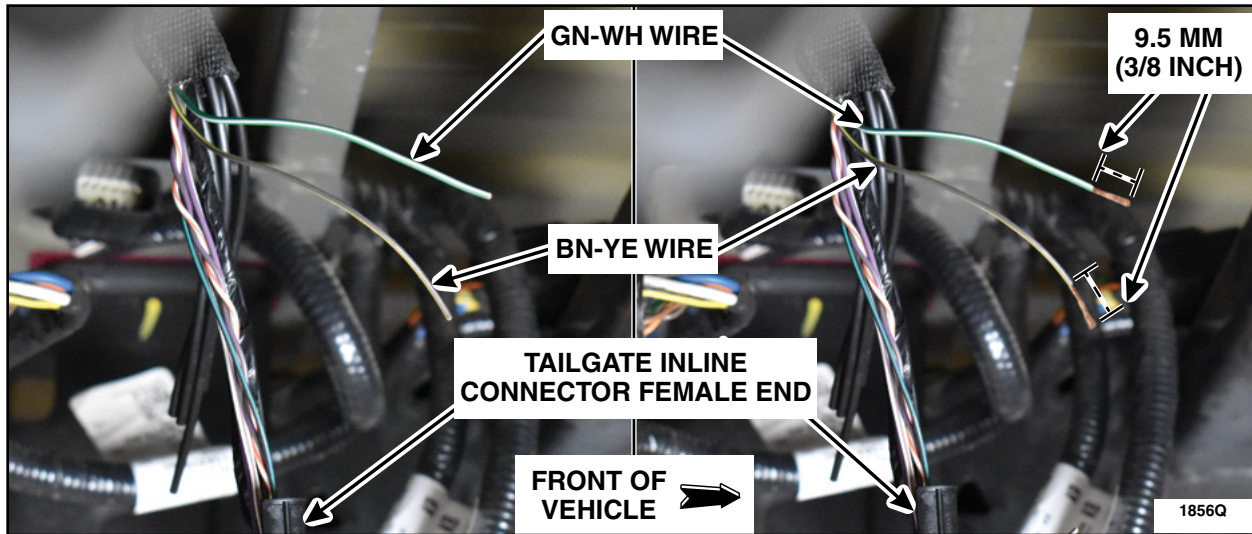

FIGURE 72
18. Strip 9.5 mm (3/8 in) of the GN-WH and BN-YE wire insulation on the female connector harness side. See Figure 72.